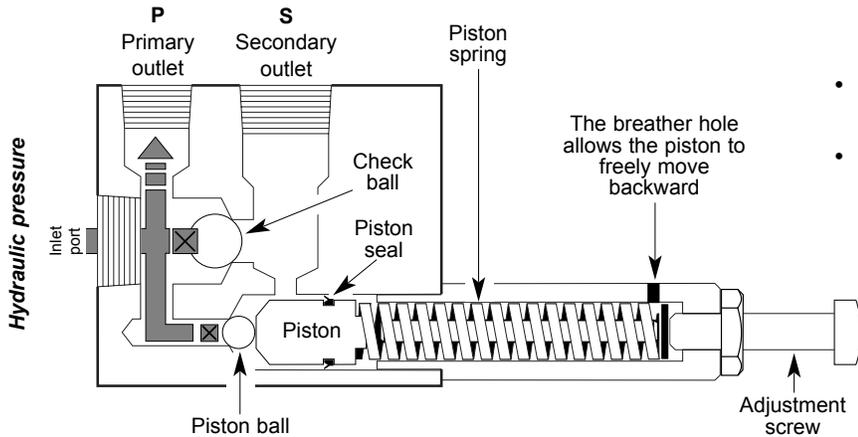

fig. 3
- 1 Pushes the check ball to close the direct passage between the primary and the secondary outlets — fig. 3.
- 2 Is diverted to the primary outlet to operate both guillotine cylinders — fig. 3.
- 3 Must wait until both guillotine cylinders have reached the end of their stroke to accumulate enough pressure and then push on the piston ball and get access to the secondary outlet — fig. 3.